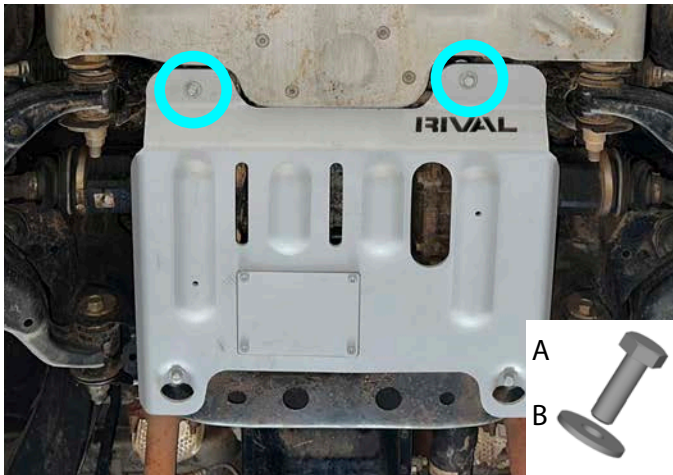

Fig.4
4. Fix the front part of engine skid plate (item 1) to mounting brackets (item 2) using bolts M8x30 (item A) and flat washers 8 (item B), as shown in fig.4.